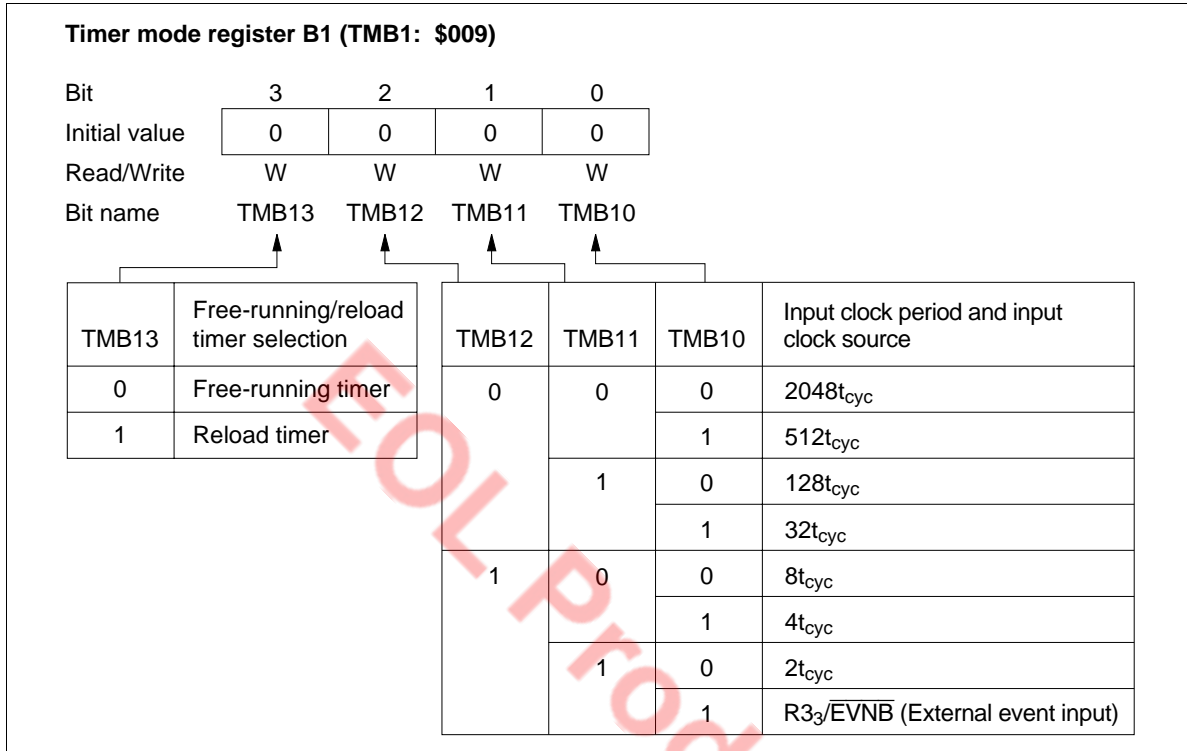

Figure 44 Timer Mode Register B1 (TMB1)
- **Timer mode register B1 (TMB1: \$009):** Four-bit write-only register that selects the free-running/reload timer function, input clock source, and the prescaler division ratio as shown in figure 44. It is reset to \$0 by MCU reset.